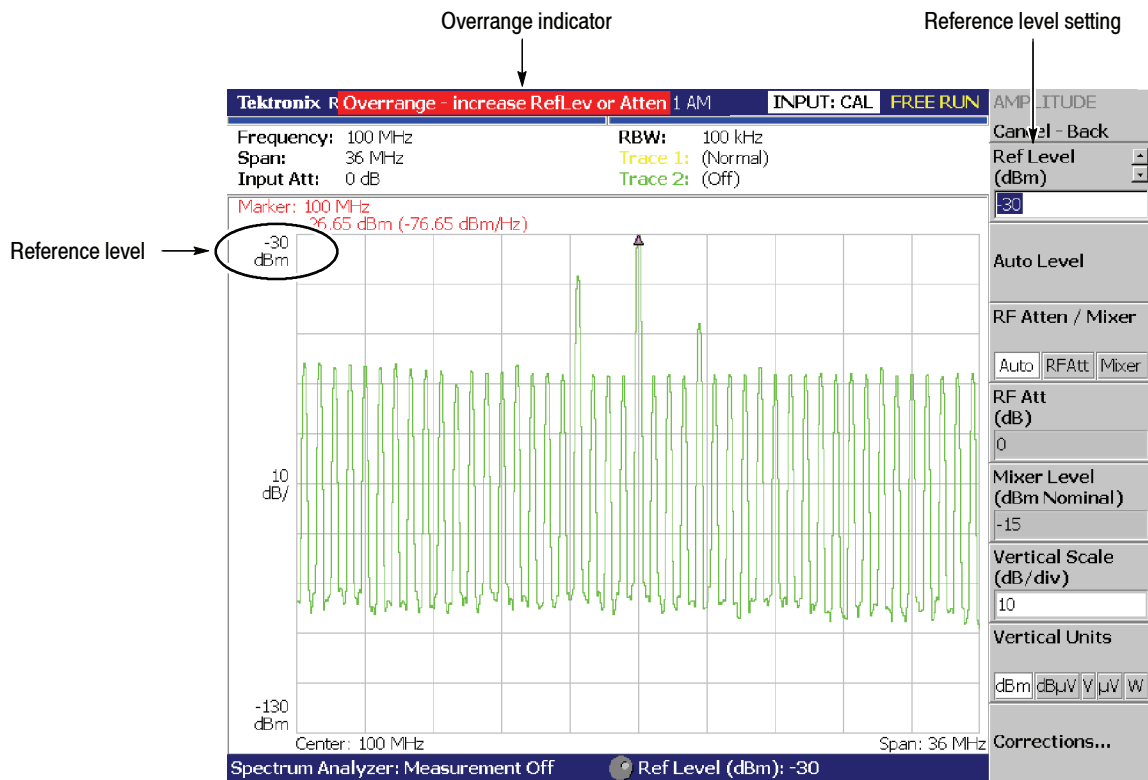

Figure 1-17: Reference level setting and overrange indicator
- b. Make sure that the reference level is set to 0 dBm with the **Ref Level** side key. Check that 0 dBm is displayed on the upper left side of the graticule (see Figure 1-17).
- d. Confirm that “Overrange - increase RefLev or Atten” is indicated in the red box at the top center of the screen. Make sure that -30 dBm is displayed on the upper left side of the graticule and that the spectrum waveform is distorted as shown in Figure 1-17.